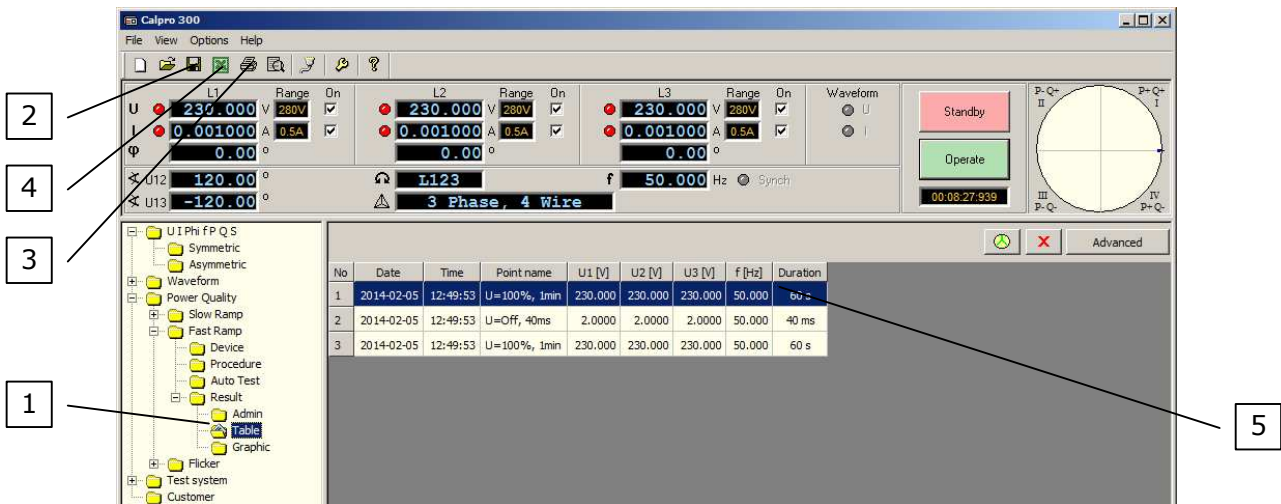
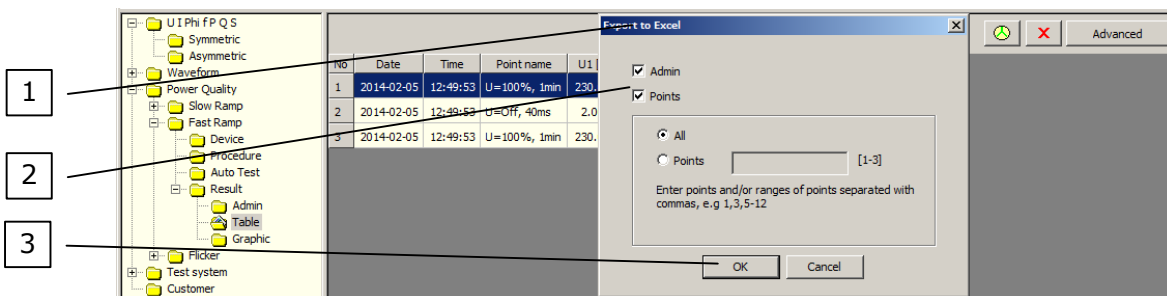
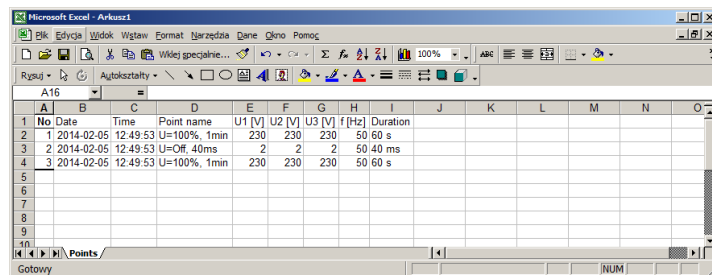

Fig.2.7. Table function with parameters of measurement points
Fig.2.8. Table function with *Export to Excel* window
Fig.2.9. MS Excel program with exported parameters of measurement points
To view a table with parameters of measurement points (Fig.2.7) the user have to press the *Table* of the *Power Quality / Fast Ramp / Result* function (pos.1). After that the user can save to the file (pos.2), print (pos.3) or export to the *MS Excel* test parameters (pos.4).
To export data to *MS Excel* program the user have to press the *Export to Excel* button (pos.4 Fig.2.7). After that appear *Export to Excel* window (pos.1 Fig.2.8) with fields to set the parameters of a data to export (pos.2 Fig.2.8). When the user confirm changes by the *OK* button (pos.3 Fig.2.8) then a *MS Excel* program run with exported test parameters (Fig.2.9).